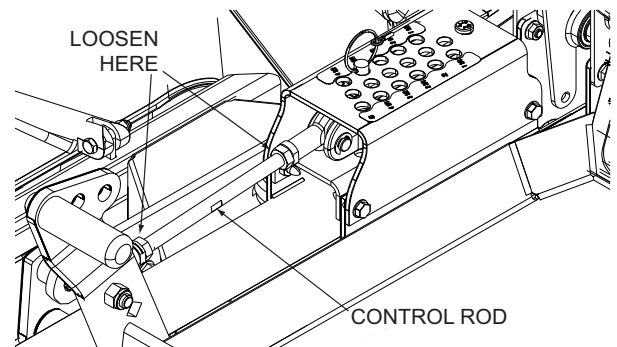

Figure 6-8. Cutter Deck Height Adjustment
3. Move the Custom-Cut Baffle to desired position. See Figure 6-8.